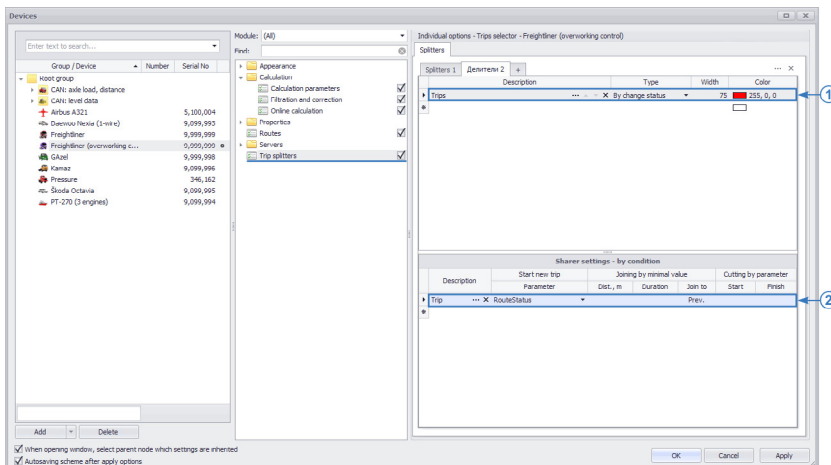

Fig. 139. Setup of the trip splitter based on the vehicle statuses.
- Go to the section "Trip splitters" in the "Devices" menu (Fig. 139).
- Add a new splitter with the "By change status" type (Fig. 139, item 1).
- In the splitter settings add a new trip and set ReouteStatus parameter (the switch showing the current vehicle status) as a condition for start of this trip (Fig. 139, item 2).
**Fig. 139** illustrates an example of splitting the data into trips based on the vehicle status change. For convenience the user columns and a column with the current vehicle status can be displayed.